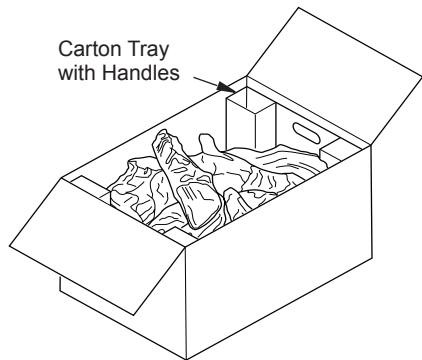

Figure 1 - Log Set in Packing Box
1. Remove entire contents of box using tray handles (see Figure 1).
Figure 1 shows a plan view of a few common locations.